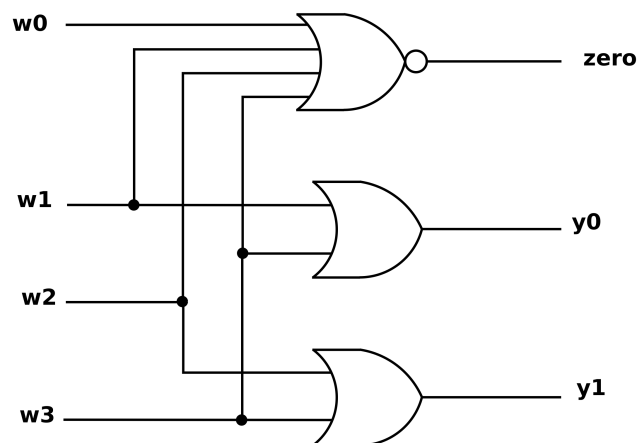

Figure 2: 4:2 Binary Encoder Gate-level Schematic
number into a decoder to power four LEDs. Now that we understand what a binary decoder does, we can surmise what a binary encoder might do. As you may have figured, a binary encoder will transform a *one-hot* encoding back into a binary number. The truth table for a 4:2 binary encoder can be found in Table 2. Notice that unexpected inputs where more than one input signal is HIGH are not shown. Also, a *zero* signal has been provided which indicates when no input signal is HIGH. The corresponding gate-level schematic is shown in Figure 2.
This type of encoder works well when no more than one button is pressed at a time, but what happens when that is not the case? Figure 2 was drawn assuming those inputs would not exist; however, we can use it to determine exactly what the output would be in all 16 button combinations. A pre-lab exercise will ask you to do just that! If we must also handle these extraneous cases, we may want to utilize a priority encoder. Table 3 shows a truth table of a priority encoder which assigns priorities to each input bit. Input bits to the left have a higher priority than input bits to the right.
2. The complete truth table for the gate-level schematic shown in Figure 2. This truth table should not include ‘don’t cares’ (i.e. ‘X’) as outputs!